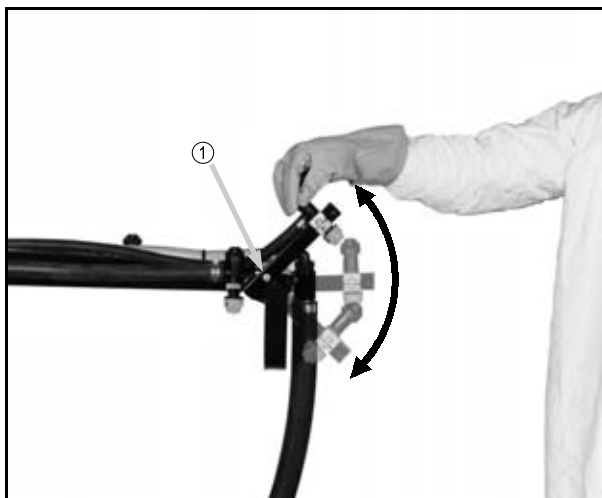

FIG 5.73
ADJUSTING FENCE ROW NOZZLE ANGLE – To adjust the fence row nozzle angle, remove the locking bolt and nut (fig. 5.73, item 1) and pivot to desired height. Re-install bolt and nut and resume operation.